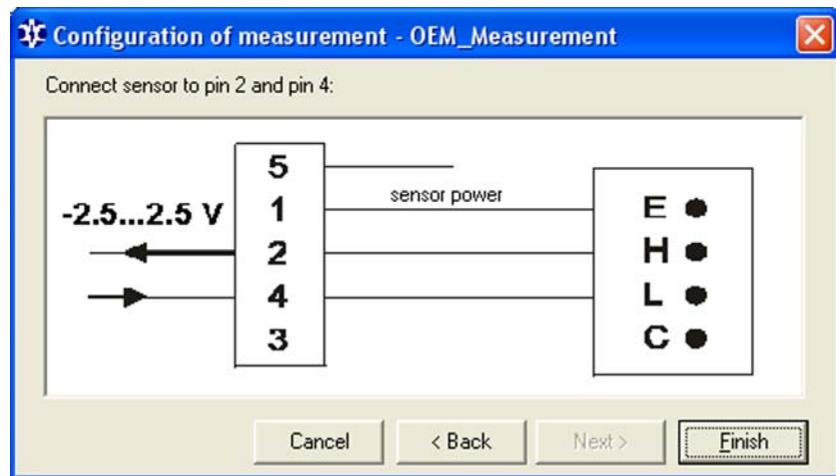

Figure 50 Electrical Connection View
6. Click **Next** to conclude the setup and view the electrical connection, presented in Figure 50 on page 123. The leftmost box shows the pins on the external connector and the rightmost shows the pins on the QML logger.